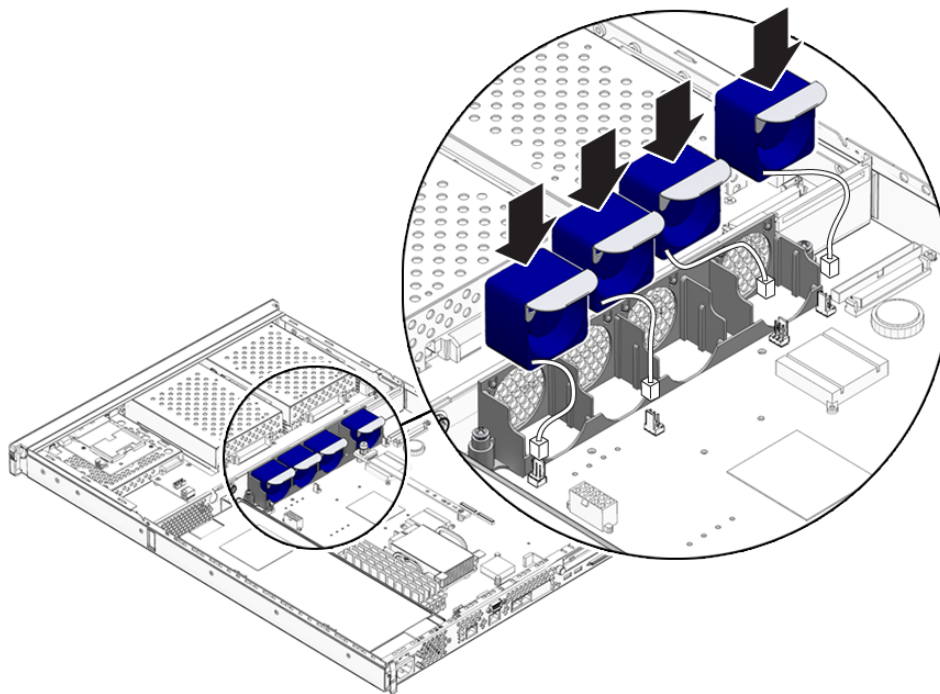

FIGURE 1-11 Disconnecting Fans' Power Cables
2. Disconnect the fans' power cables from the system board (FIGURE 1-11).